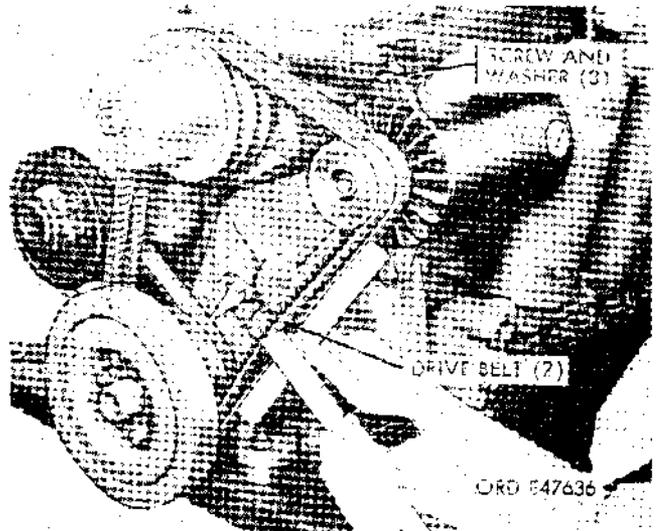
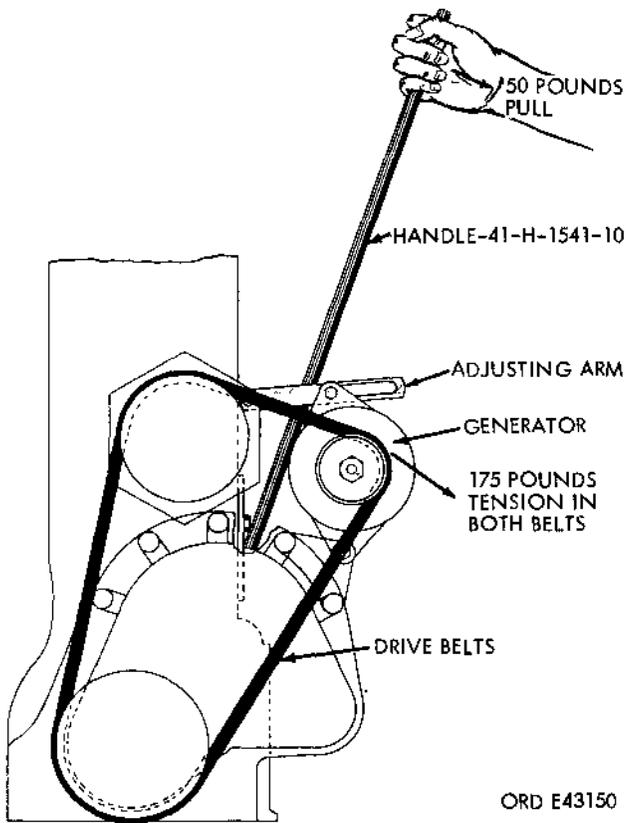

Figure 2-127. Drive belt adjustment.
Figure 2-128. Adjusting drive belts.
a. Adjustment. Drive belt adjustment should be made on new engines after the vehicle has traveled 100 miles. Check the drive belt tension by applying a slight pressure individually to each belt at a point midway between fan and generator pulleys. Belt deflection at this point should be between ¼ and ½ inch as indicated in figure 2-127. If belt deflection is less than ¼ inch or more than ½ inch, adjust as follows:
(1) Loosen the generator-to-adjusting arm screw (fig. 2-127).
(2) Insert the end of the rim tool-and-wheel nut wrench handle (fig. 2-128), or a 30-inch bar between the crankcase and the generator.
(3) Pull the upper end of the handle away from the engine with a pull of 50 pounds (fig. 2-128), and keeping the handle in this position, tighten the generator-to-adjusting arm screw (fig. 2-127).
(1) Loosen the generator-to-adjusting arm screw (fig. 2-127), and move the generator as far as it will go toward the engine.
(2) Remove the front belt from the generator, fan, and crankshaft pulleys, and lift the belt over the fan.
(3) Remove the rear belt as described in (2) above.
(1) Place the rear drive belt (fig. 2-127) over the fan, and then over the crankshaft, fan, and generator pulleys.
(2) Install the front drive belt as described in (1) above.
(3) Adjust the drive belts as described in *a* above.
(1) Loosen the generator-to-adjusting-arm capscrew (fig. 2-127).
(2) Insert the end of the rim tool-and-wheel nut wrench handle or a 30-inch bar, between the crankcase and the generator. Make sure that the lower end of the handle will bear against the crankcase at a point directly below the front capscrew on the valve tappet chamber front cover.
(3) Pull the upper end of the handle with a pull of 50 pounds and, keeping the handle in this position, tighten the generator-to-adjusting arm cap screw. This procedure should place both belts under the proper tension, and allow the belt deflection specified above.